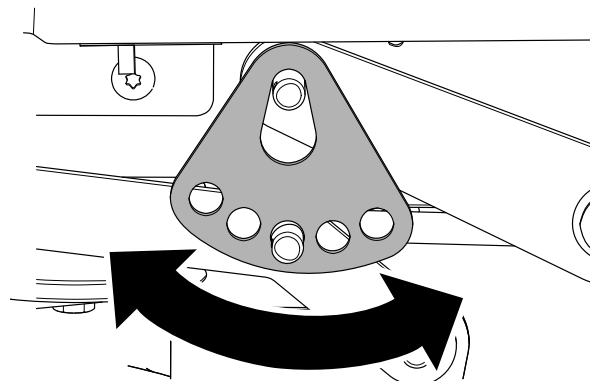

**Figure 61**
6. Remove the hairpin cotter and washer from the lower lift-arm pin (Figure 61).